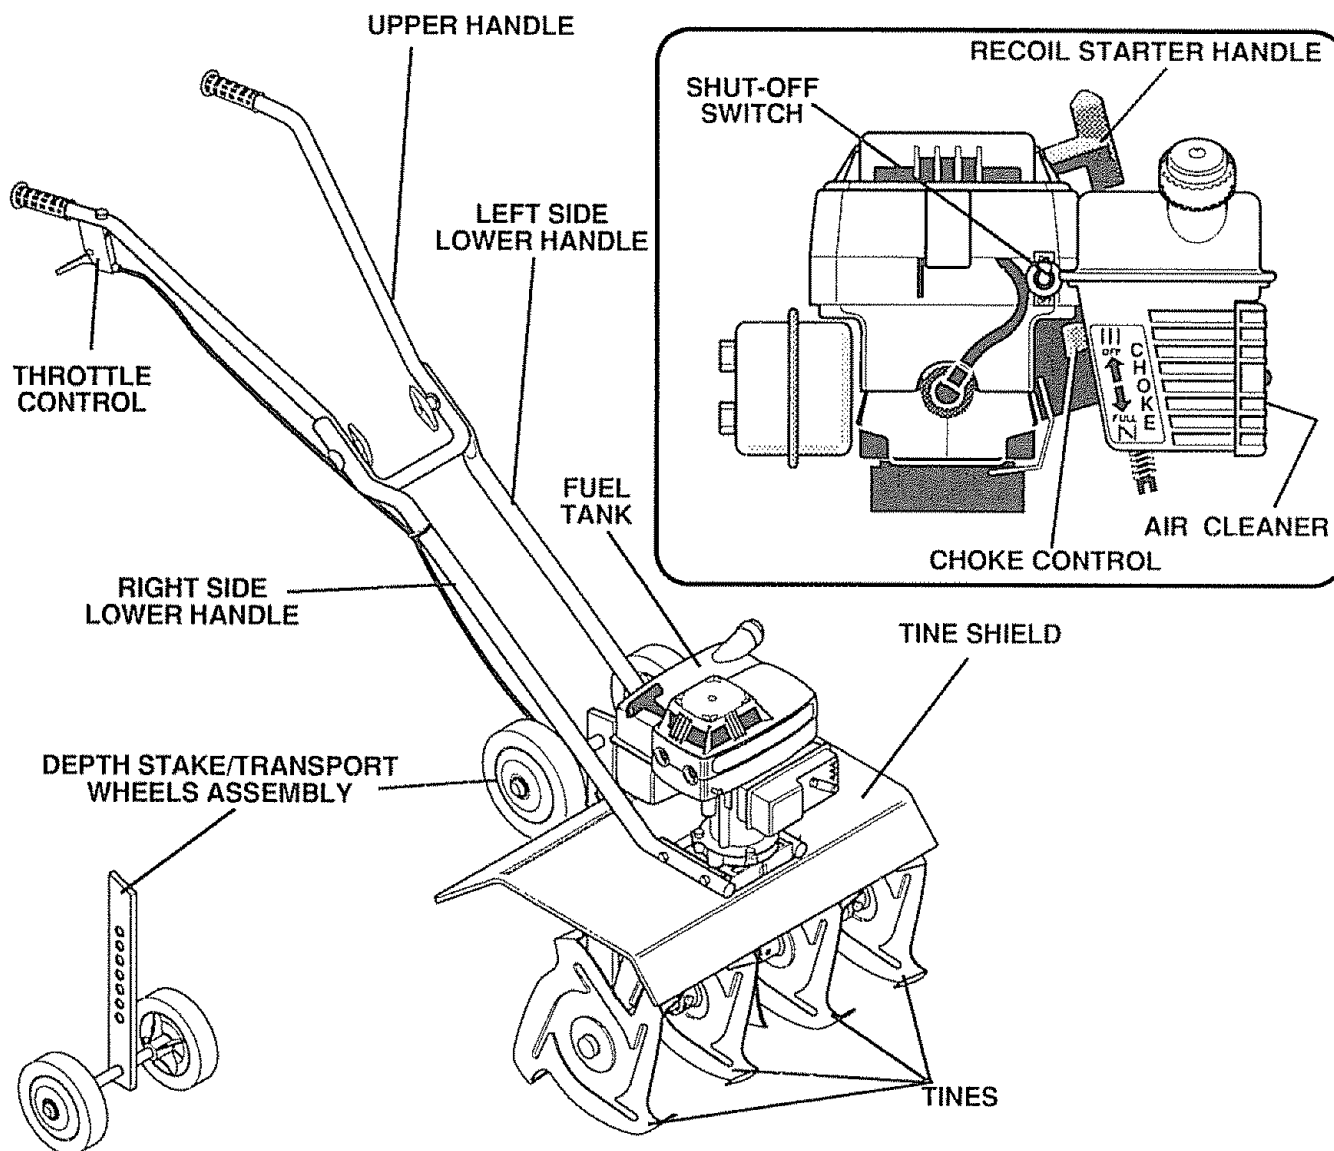

FIG. 6
- Move the choke control (see Fig. 6) to the FULL choke position (all the way down).